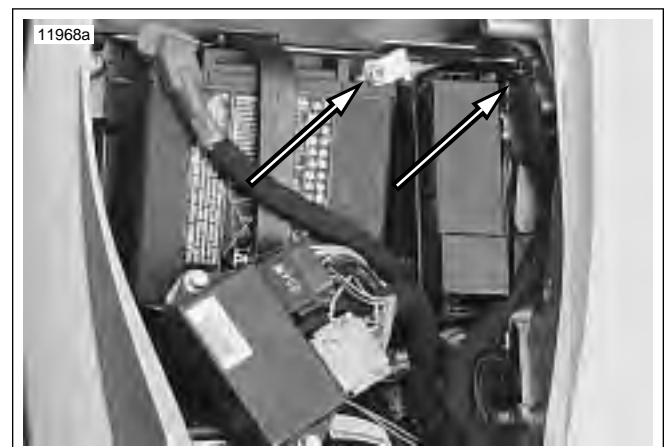

Figure 7-39. Negative Battery Cable
2. See Figure 7-39. Remove fastener to detach negative battery cable from frame.
- b. See Figure 7-39. Attach negative cable to frame. Tighten to 72-96 **in-lbs** (8.1-10.8 Nm).